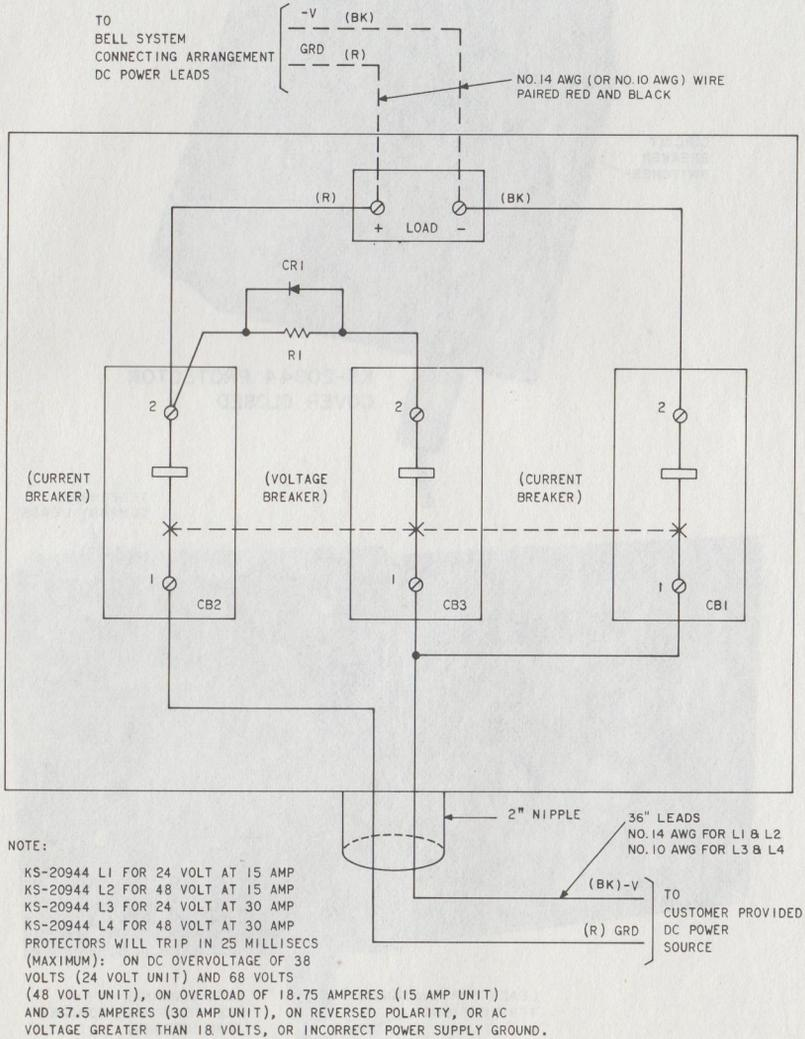

Fig. 13—Schematic—KS-20944 Protector
**3.26** Set circuit breaker lever to OFF and connect as shown in Fig. 13 following local wiring instructions. The customer must connect his power supply to the red (GRD) and black (-V) 14-gauge leads extending from the unit.
- 6.06 ⚡For connection information using the KS-20944 Protector, refer to Fig. 13.⚡